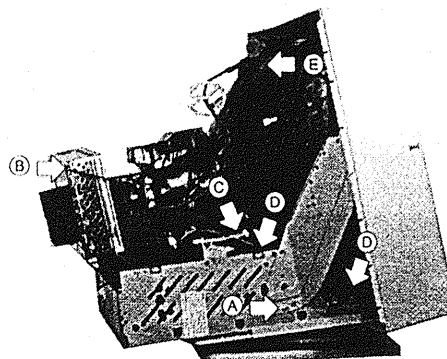

Figure 2-5 Remove the Neck Board (left side)
4. Remove the screw at the holder. Refer to the figure 2-5 (A).
5. Disconnect the ground wire from the neck shield. Refer to the figure 2-5 (B).
6. Release the cord cramp from the FBT cover. Refer to the figure 2-5 (C).
7. Remove the two connected pins from the main board. Refer to the figure 2-5 (D).
8. Remove the anode cap from the CRT. Refer to the figure 2-5 (E)